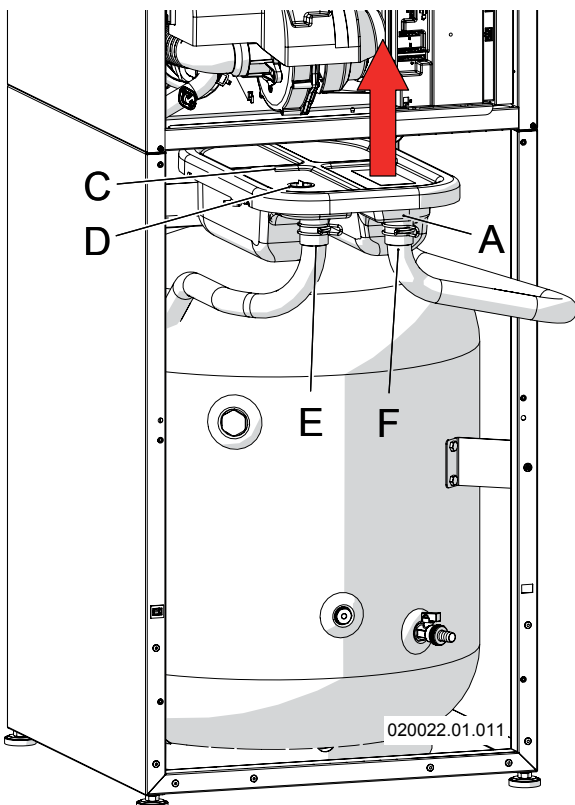

Figure 17-14 Condensate trap and neutralizing box removing
Monitor the level of the neutralization media in the box periodically. The pH can be checked from the test port “D” (Figure 17-14). Check the pH level every three months for the first year. Use a suitable pH test strip paper or an electronic pH meter for precise measurement. The frequency of checking the pH level can be reduced to every six months or every year depending on the readings obtained compared to local water authority requirements. The neutralizing media should be replaced when the pH level drops below the minimum level of the local water authority. For replacement media contact your local sales representative. How to operate:
3. place a bucket (Min. 2 gallons) below connection “E” and “F” (Figure 17-14);
4. Disconnect connections “E” and “F” (Figure 17-14);
CAUTION!!! Disconnecting connection “E” and “F” (Figure 17-14) condensate water will immediately exit and must be collected into the presaid bucket. Leaking condensate water may cause severe property damage.
6. open cover “C” (Figure 17-14) in the upper direction;
9. fill with fresh water until the water begins to flow out of drains “E” and “F” (Figure 17-14) ;